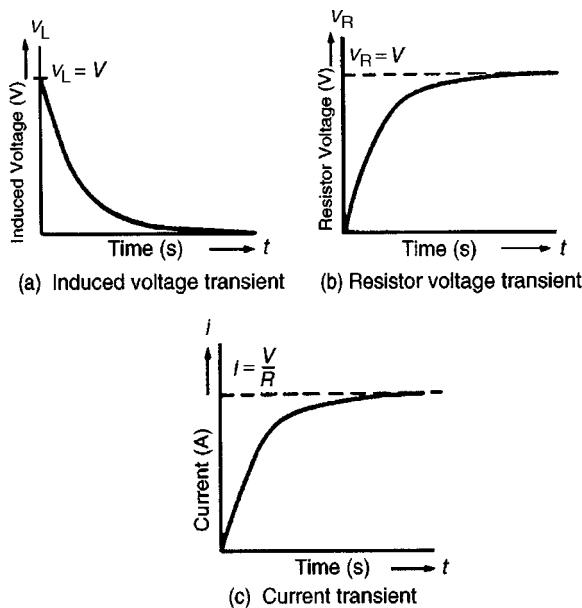

Figure 18.11
- (g) Curves showing the changes in  $v_L$ ,  $v_R$  and  $i$  with time are shown in Fig. 18.11 and indicate that  $v_L$  is a maximum value initially (i.e. equal to  $V$ ), decaying exponentially to zero, whereas  $v_R$  and  $i$  grow
Each of the transient curves shown in Fig. 18.11 have mathematical equations, and these are: